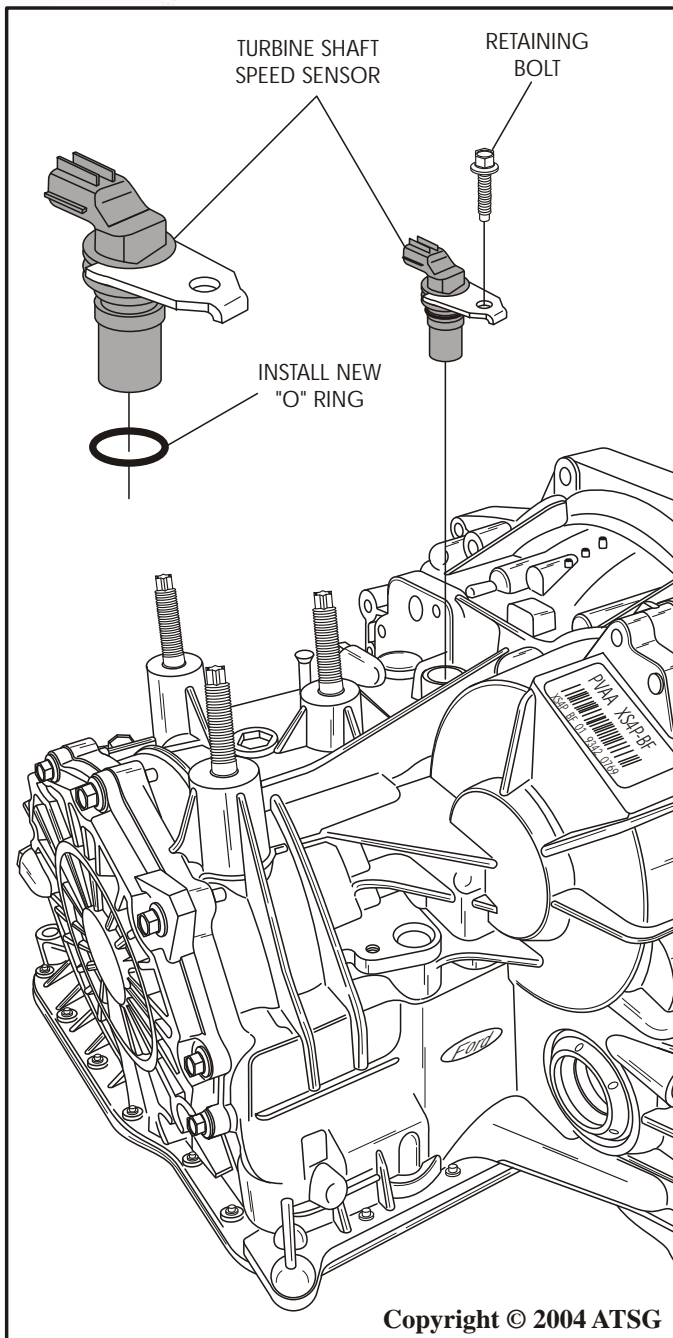

Figure 189
1. Install new "O" ring seal onto turbine shaft speed sensor, lubricate with small amount of Trans-Jel® and install into the case bore, as shown in Figure 189.
2. Install speed sensor retaining bolt and torque to 9 N•m (80 in.lb.) (See Figure 189).